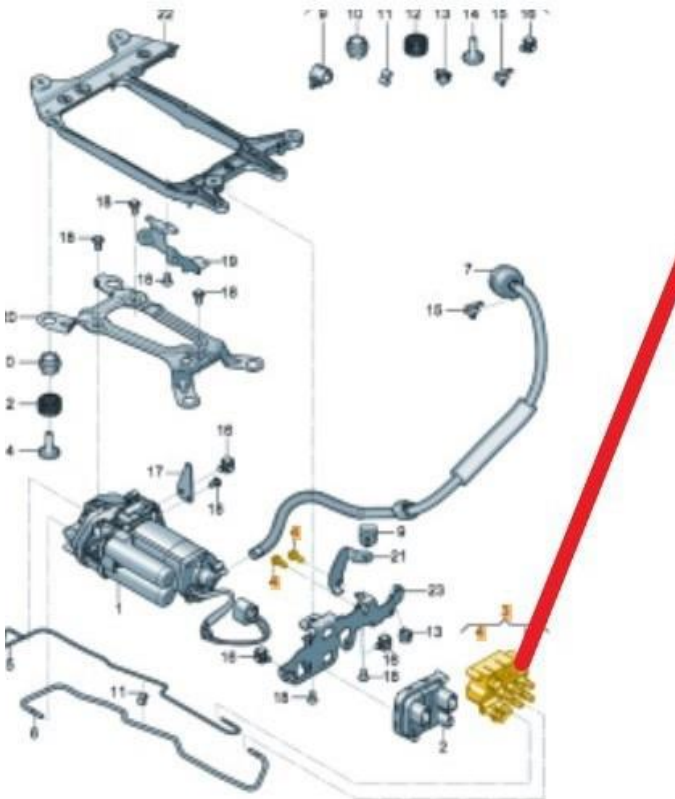

Figure 2
- Should none of the afore mentioned issues be evident - Replace the solenoid valve block (Figure 2) as detailed within Rep.Gr 43